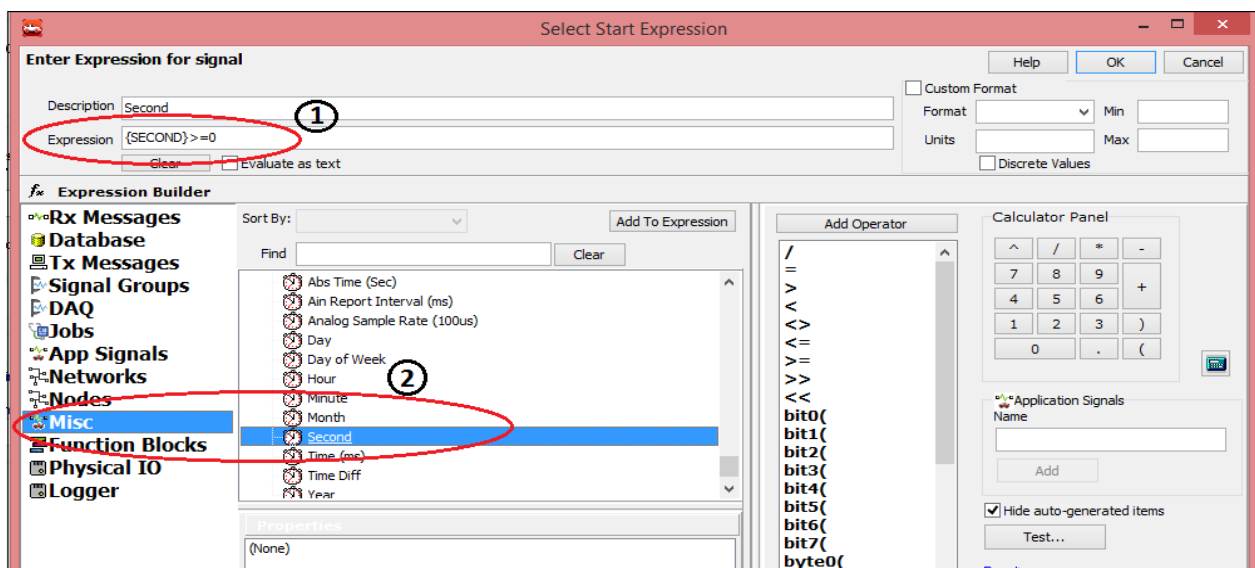

Figure 2: Settings for Collection Start expression
- Go in 'Misc' and select 'Second' property from Time category of list from the right side block (Figure 2 (2)).
- Double click on selected property it will come in Expression block on top of window (Figure 2 (1)).